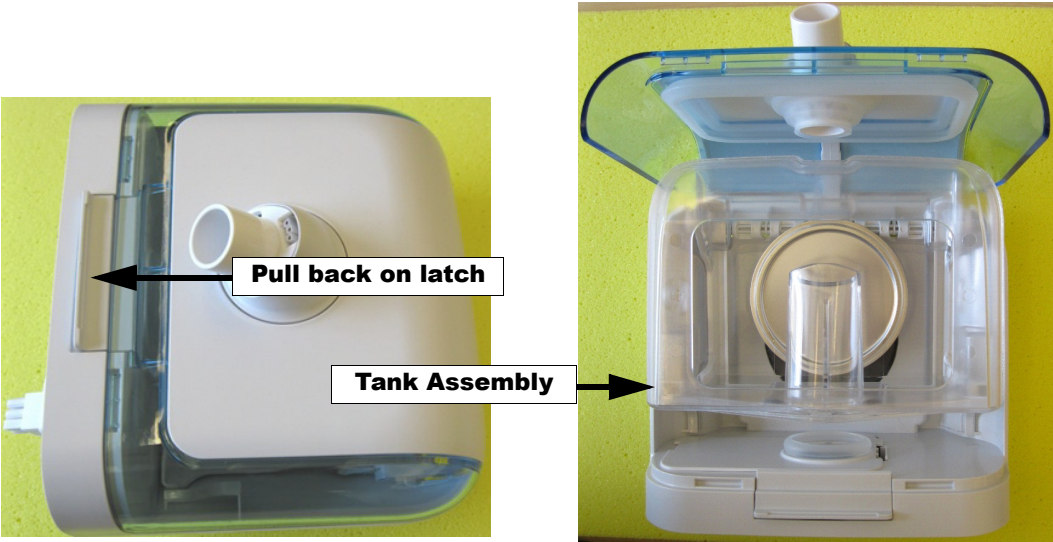

FIGURE 8-1: WATER CHAMBER ASSEMBLY
1. Position the Water Tank back into the Humidifier as shown in Figure 8-1.